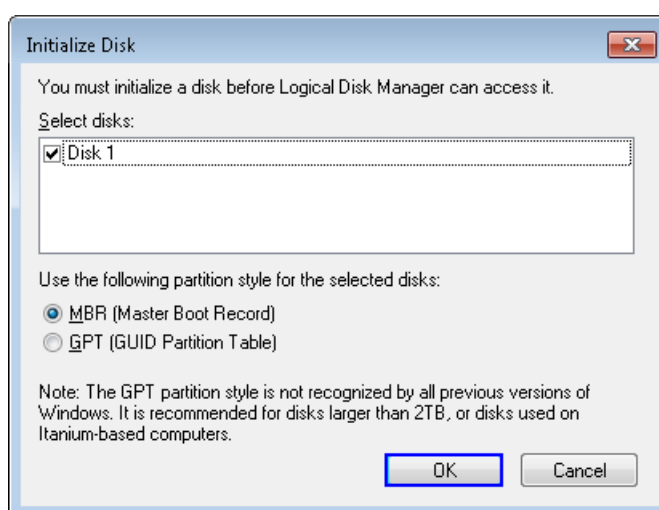

Figure 5 Initialize New Disk
- Select Computer Management -> Disk Management and Pop-up menu will be displayed as shown in Figure 5. Click “OK” button to start initialize disk.